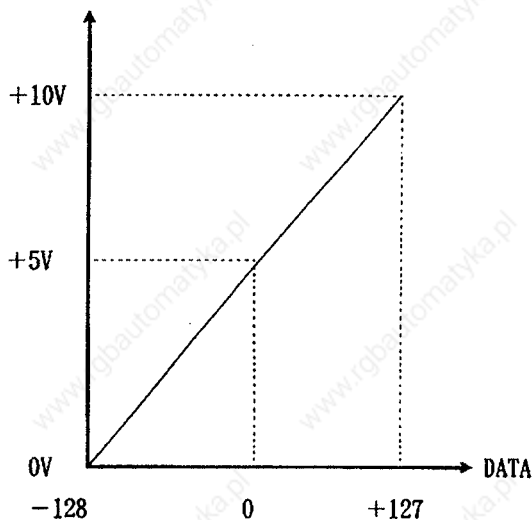

Fig. 1
- ① The output data other than speedometer output and load meter output will be D/A output as shown in Fig. 1.
Thus, the actual data = $4096 \times 1.2 = 4915$ will be output when the current feedback is +120%. If parameter SP255 (SP256) is set to 256 (magnification = 1), the D/A output voltage will be the following, according to Fig. 1.
If parameter SP255 (SP256) is set to 256 (magnification = 1), the D/A output voltage will be the following, according to Fig. 1.
Thus, during a +0.1° position droop, the actual data = $0.1 \times 23040000/360=6400$ will be output. If parameter SP255 (SP256) is set to 256 (magnification = 1), the D/A output voltage will be the following, according to Fig. 1.